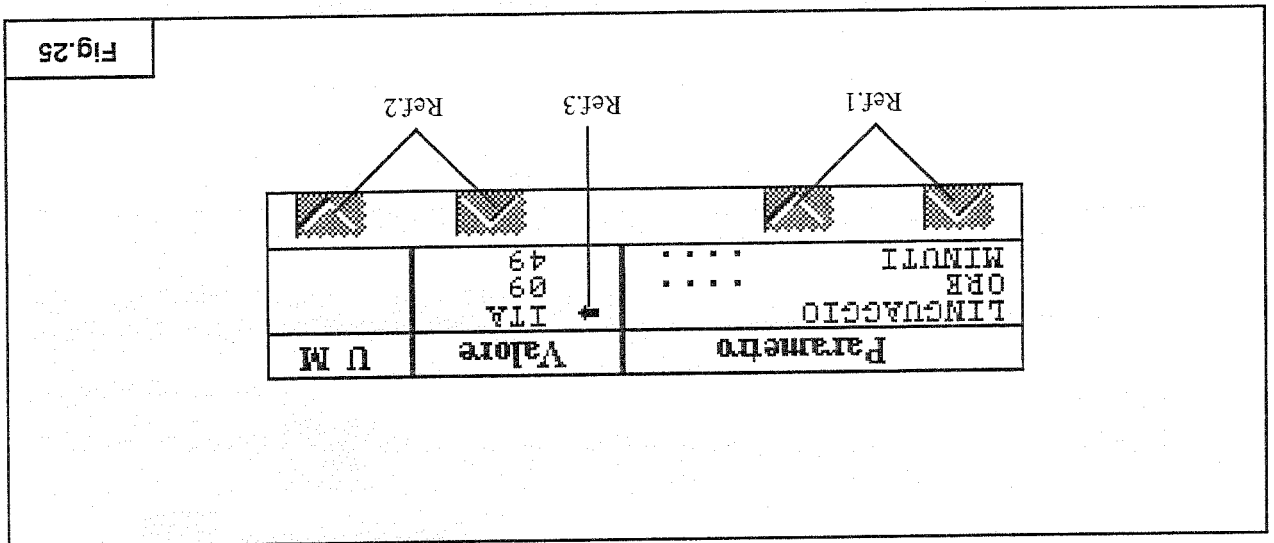

Fig.25
- TIME/DATE and LANGUAGE setting (Ref.1 - Fig.25 see par.4.8.1)
The second column shows the value that can be modified through arrow buttons (Ref.2-Fig.25). To leave the program, just wait for 30" without pressing any button or simply push STOP.
An arrow by side of the value will indicate the parameter selected (Ref.3-Fig.25).
Through left arrow push-buttons (Ref.1-Fig.25) you shift from a parameter to another, whereas with right
arrow push-buttons (Ref.2 - Fig.25) you change parameter values.